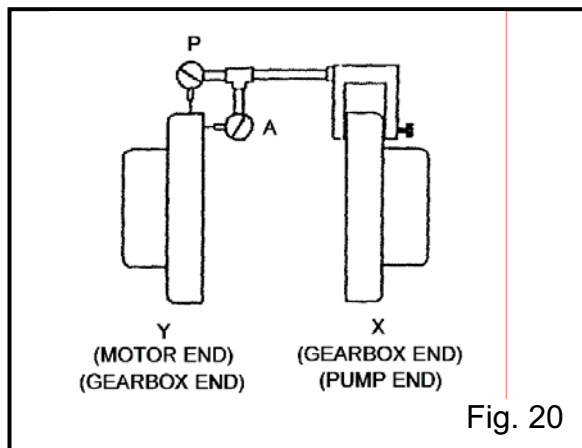

Fig. 20
1. Mount two dial indicators off one half of the coupling (X) so they contact the other coupling half (Y) (Fig. 20).
2. Check setting of indicators by rotating coupling half (X) to ensure indicators stay in contact with coupling half (Y) but do not bottom out. Adjust indicators accordingly.
Couplings are in angular alignment when indicator "A" (Angular Indicator), Fig 20, does not vary by more than .003" (.076mm) as measured at four points on the coupling periphery 90° apart at operating temperature. Outlined below are two acceptable methods to achieve the desired alignment.